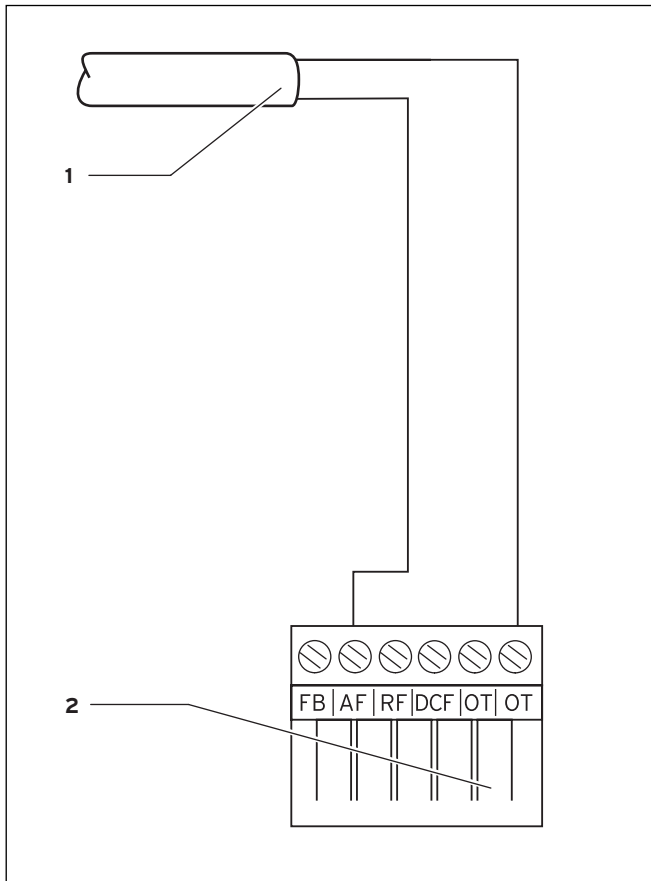

Fig. 5.2 Electrical connection of VRC 693
- ⇒ Connect the connection cable to the 6-pole edge connector as per Fig. 5.2.